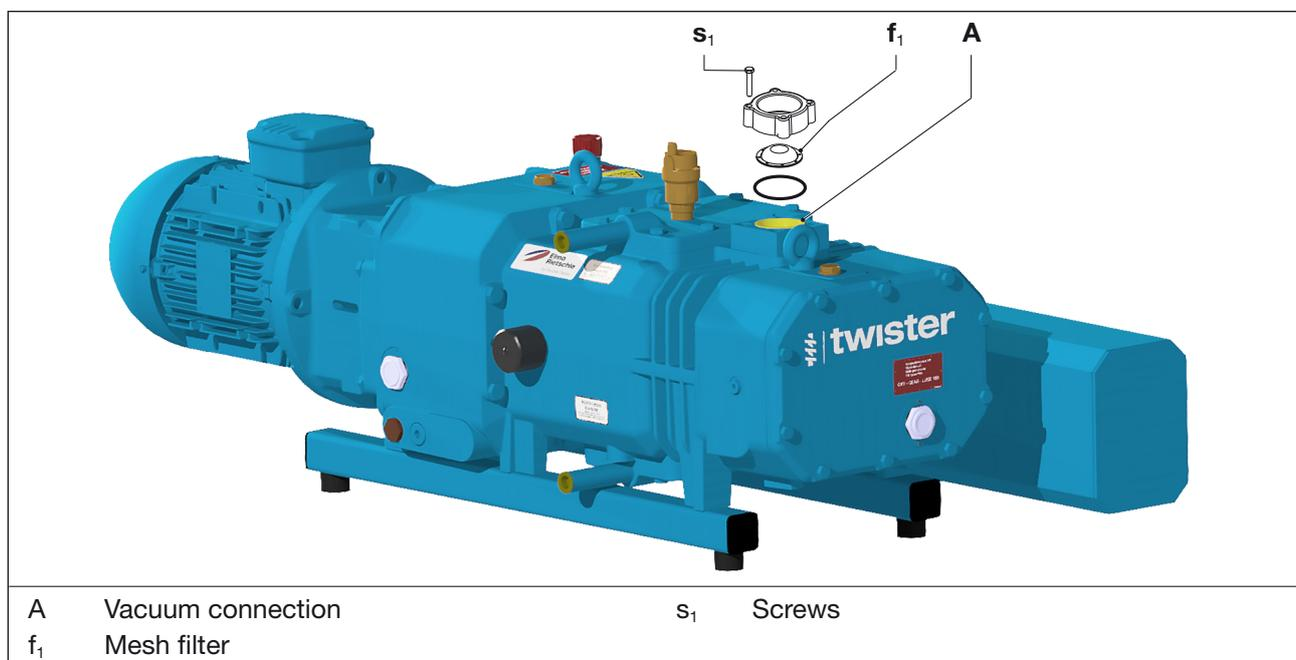

Fig. 10 Air filter
Depending on the pollution of the inlet medium, the mesh filter (Fig. 10/f₁) has to be cleaned more or less often by washing or it must be replaced.
- a) Take off the vacuum connection (Fig. 10/A) after removing the screws (Fig. 10/s₁).
- b) Clean the mesh filter (Fig. 10/f₁).
The pumps work with a gas ballast valve (Fig. 10/U).